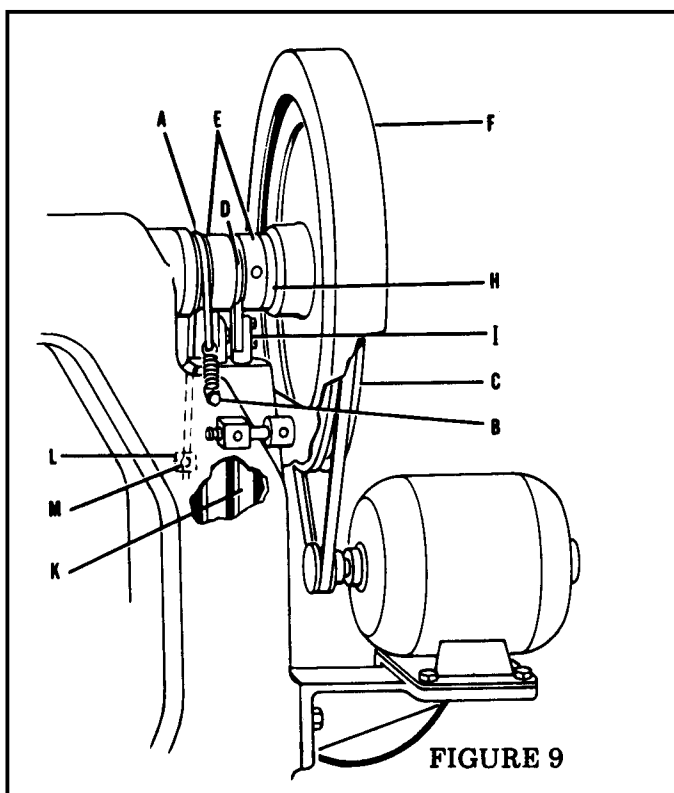

FIGURE 9
The function of the brake (Index A, figure 9) is to stop the machine at the proper point in the stitching cycle. If the brake strap is too loose, the machine will continue to stitch after pressure is removed from the foot pedal. If there is excessive brake tension, the clutch bolt is not retracted completely and will cause a clicking noise. (When the flywheel is turned over by hand, the clicking noise will often occur after the motor has been turned on. Driving a single stitch will eliminate the clicking noise.) The brake is properly adjusted when the stitcher stops at neutral — the point where the formers (Index A & B, figure 6) stop above the level of the straight piece of wire held in the mandrel. If the formers descend to a point where they start to
1. Remove the strap by removing the anchor screw and unhooking from spring (Index B, figure 9).
3. Re-adjust the brake tension until the machine stops at neutral by pulling down on strap below the adjusting bracket (Index L, figure 9).
4. Tighten set screw (Index M, figure 9).